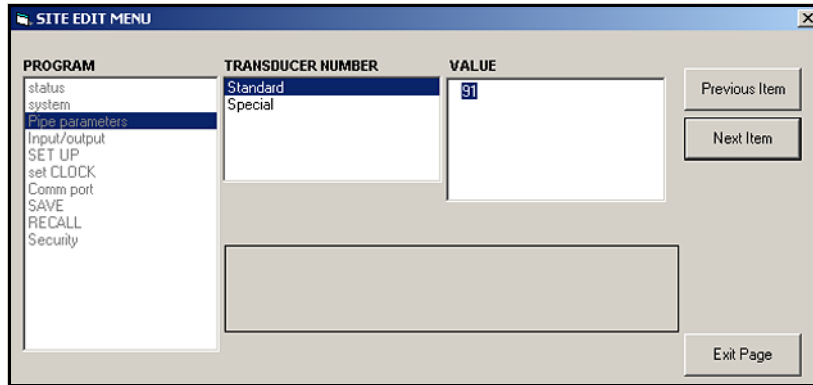

Figure 37: Site Edit Menu - Pipe Parameters Option
- Highlight and double-click on the desired option in the left pane. *Figure 37* below shows the first entry (*Transducer Number*) in the *Pipe Parameters* option. The title above the center pane lists the current entry, while the center pane displays the available selections for that entry.